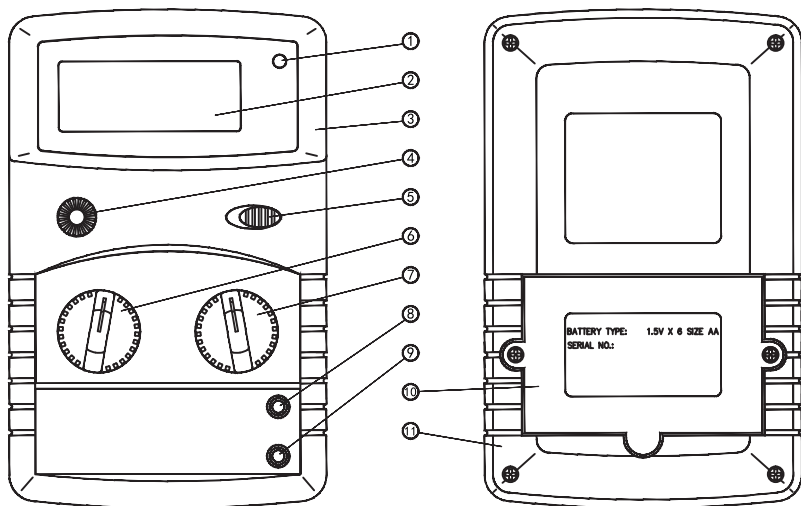

Fig 3
2.1 NAMES OF COMPONENTS (See Fig 3)
- ① High Voltage Output Indicator
- ② LCD Display
- ③ Panel
- ④ Test Button
- ⑤ Data Hold Switch (D-H)
- ⑥ Function Switch
- ⑦ Range Switch
- ⑧ HIGH Jack
- ⑨ LOW Jack
- ⑩ Battery Cover